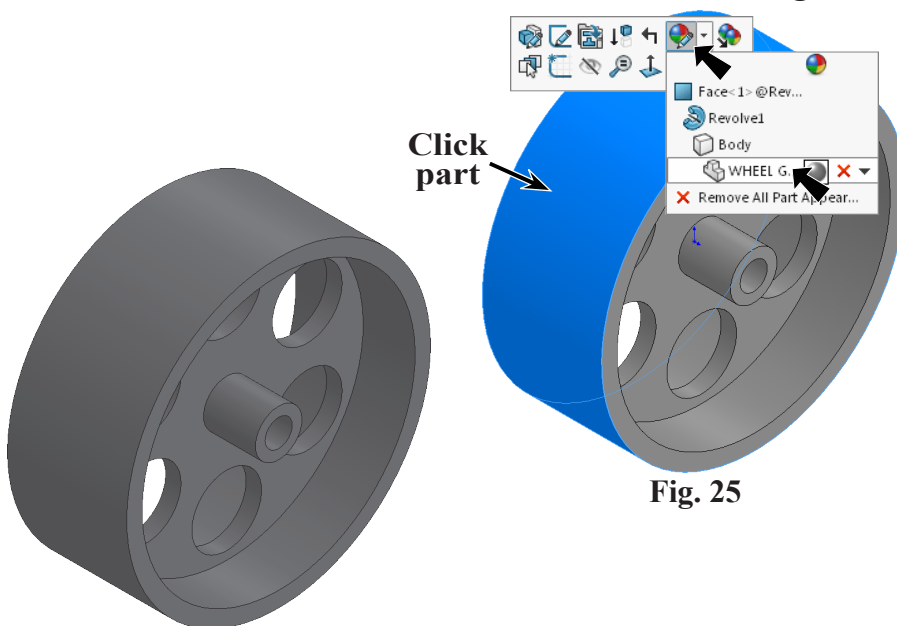

Fig. 25
- Step 1. Click the part, click **Appearance Callout**  on the Context toolbar and click **WHEEL GT-R** , Fig. 25.